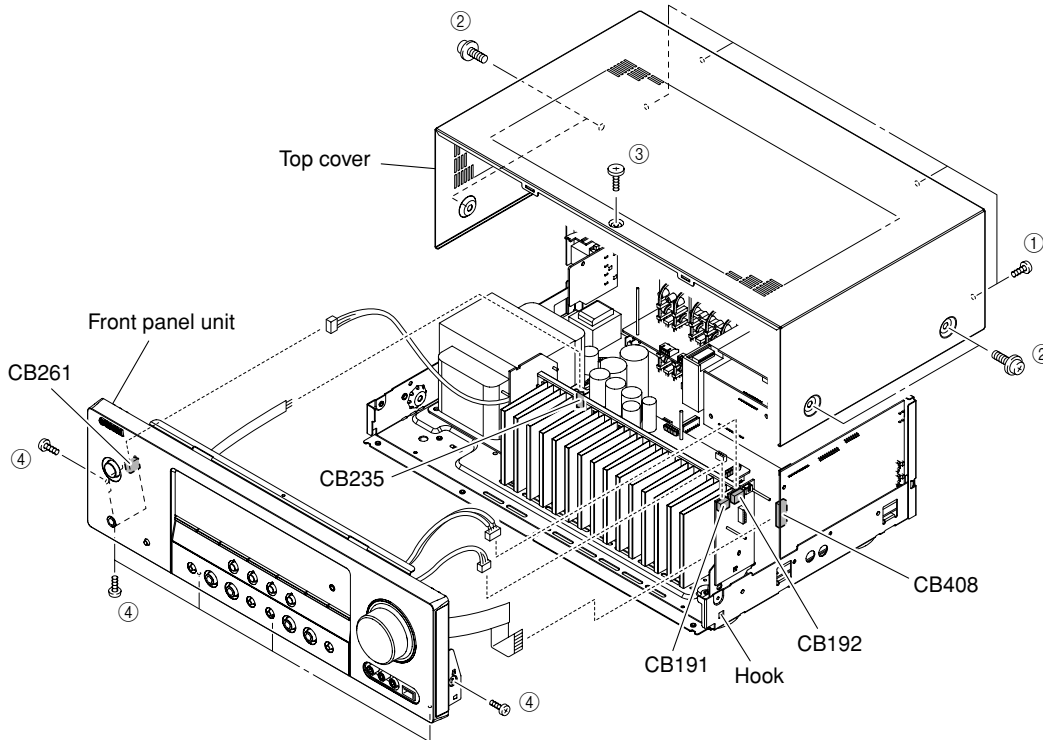

Fig. 1
- a. Remove 4 screws (①), 4 screws (②) and screw (③). (Fig. 1)
- b. Slide the top cover rearward to remove it. (Fig. 1)
- a. Remove 6 screws (④). (Fig. 1)
- b. Remove CB191, CB192, CB235, CB261 and CB408. (Fig. 1)
- c. Remove the front panel unit. (Fig. 1)